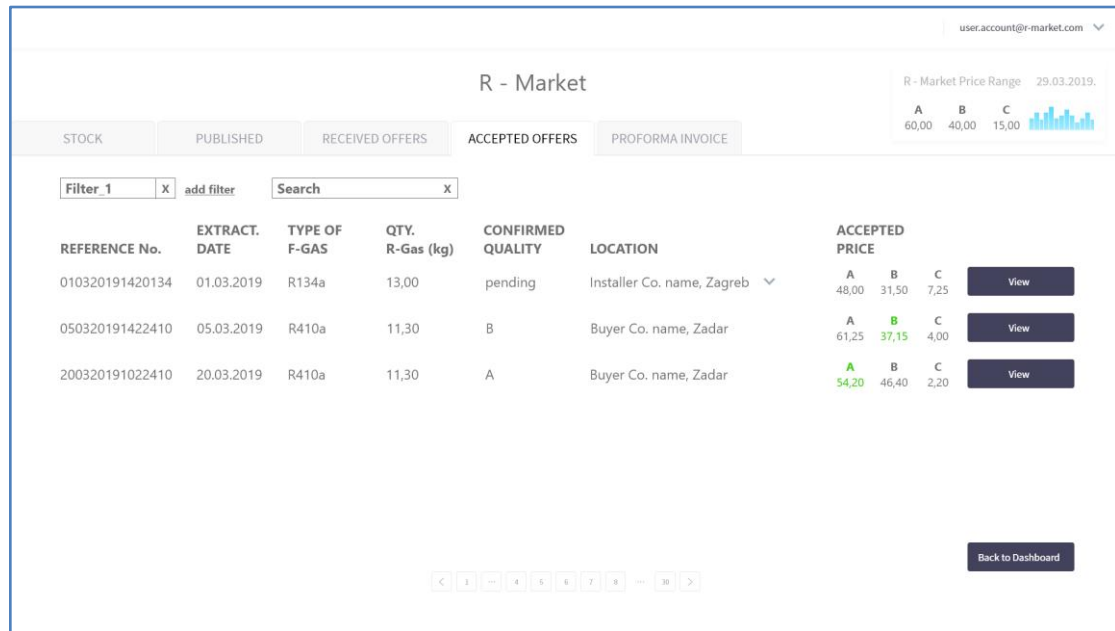

Figure 9: User interaction and design for "Accepted Offers" tab.
The Installer Co. admin selects the fourth (4th) from the five (5) options/ functionalities available to manage accepted offers for the R-Gas published on the market. Basically, "Accepted offers" tab contains all that items for which an offer has been approved by seller. This means that the relevant entry from "Received offers" listing is transferred to "Accepted offers" listing, too. A template of user interaction and design for R-Market tab with "Accepted Offers" option enabled, is depicted in **Figure 9**: